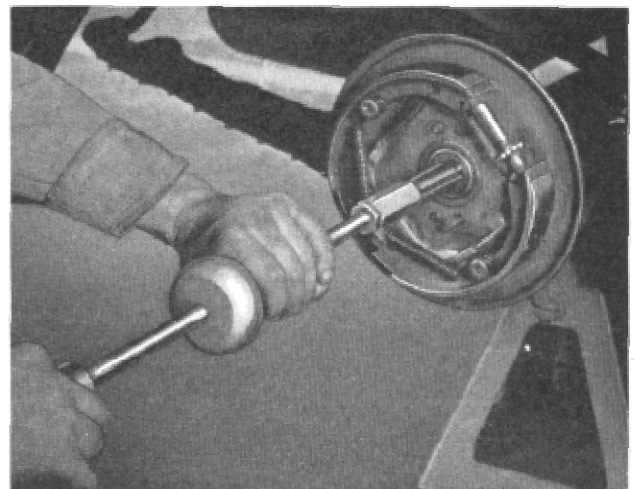

Figure 3
(6) Remove rear wheel bearing cups (41) and axle shafts (32), using axle shaft and bearing puller J-352 (Fig. 3).
(7) Remove rear wheel bearing cone and rolls (41) from axle shafts, using bearing remover J-358.